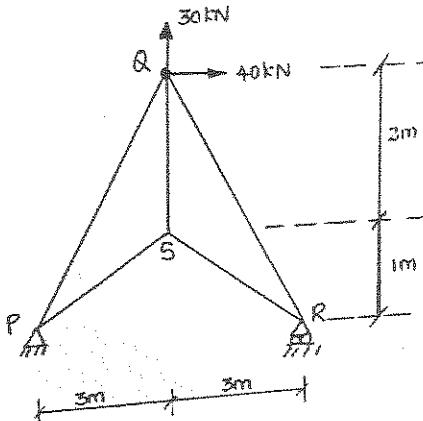

Fig. Q15 (a)
15. (a) Find the forces in all the members of pin jointed frame PQRS shown in Fig Q15 (a), using stiffness method. Assume Area =  $1800 \text{ mm}^2$  and Young's modulus = 200 GPa for all the members.